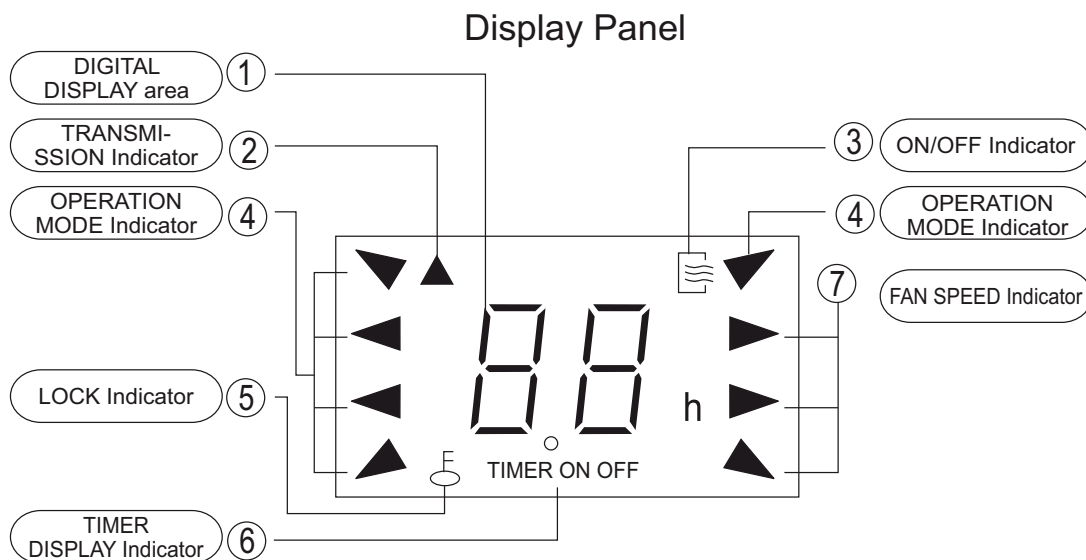

Fig. 2
- ① **DIGITAL DISPLAY area:** This area will show the set temperature and, if in the TIMER mode, will show the ON and OFF settings of the TIMER. If in the FAN mode, nothing is appeared.
- ② **TRANSMISSION Indicator:** This indicator flashes one time when remote controller transmits signals to the indoor unit.
- ③ ON/OFF Indicator: This symbol appears when the unit is turned on by the remote controller, and disappear when the unit is turned off.
- ④ OPERATION MODE Indicator: When press the MODE button, it shows the current operating mode -- "AUTO", "COOL", "DRY", "HEAT" (Cooling only model without) , or "FAN" mode.
- ⑤ LOCK Indicator: LOCK display is displayed by pushing the LOCK button. Push the LOCK button to clear display.
- ⑥ TIMER DISPLAY Indicator: This display area shows the settings of the TIMER. That is, if only the starting time of operation is set, it will display the TIMER ON. If only the turning off time of operation is set, it will display the TIMER OFF. If both operations are set, it will show TIMER ON-OFF which indicates you have chosen to set both the starting time and off time.
- ⑦ FAN SPEED Indicator: Press the FAN SPEED button to select the desired fan speed setting (Auto-Low-Med-High). You selection will be displayed in the LCD window except the Auto fan speed.
**NOTE:** All signs shown in the Fig.2 is for the purpose of clear presentation. But during the actual operation only the relative functional signs are shown on the display panel.